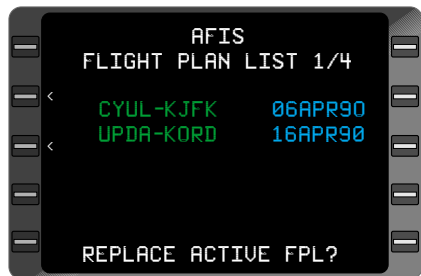

Figure 7-128
1. **FPL** Key - DEPRESS until AFIS FLIGHT PLAN LIST Page appears with Updated Flight Plan (UPDA - XXXX). (Figure 7-128)